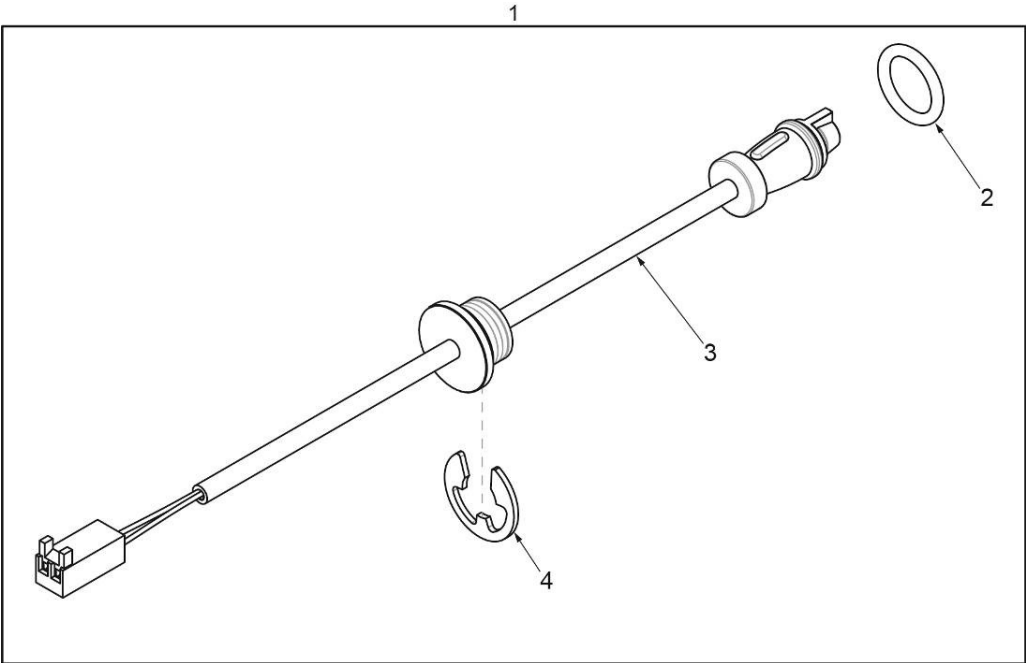

Figure 98: Wiring Loom Handle Socket Kit
a. The wiring loom handle socket is a line replaceable unit and is available as a service kit, 3004-0056 Wiring loom Handle Socket Kit, which includes associated parts. Figure 98 illustrates the major parts of wiring loom handle Socket.